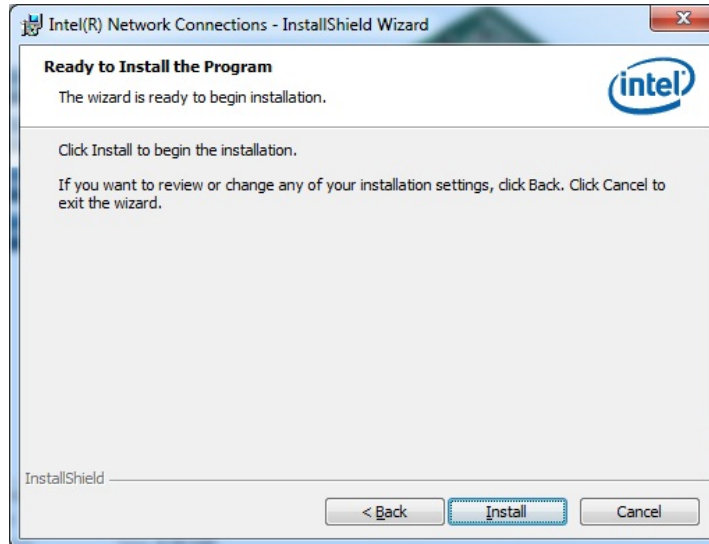

Figure 6-12: LAN Driver Installation
Step 15: The **Ready to Install the Program** screen in **Figure 6-12** appears.